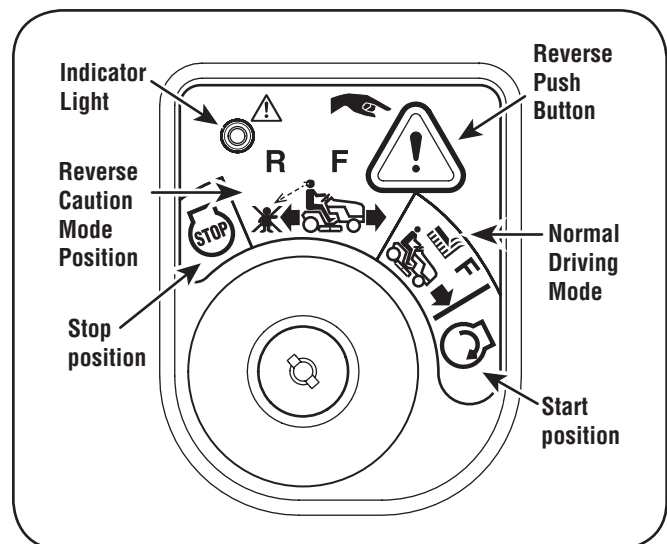

Figure 5-1
2. Turn the key from the NORMAL MOWING (*Green*) position to the REVERSE CAUTION MODE (*Yellow*) position of the key switch module. See Figure 5-1.
- Depress the REVERSE PUSH BUTTON (*Orange, Triangular Button*) at the top, right corner of the key switch module. The red indicator light at the top, left corner of the key switch module will be ON while activated. See Figure 5-1.